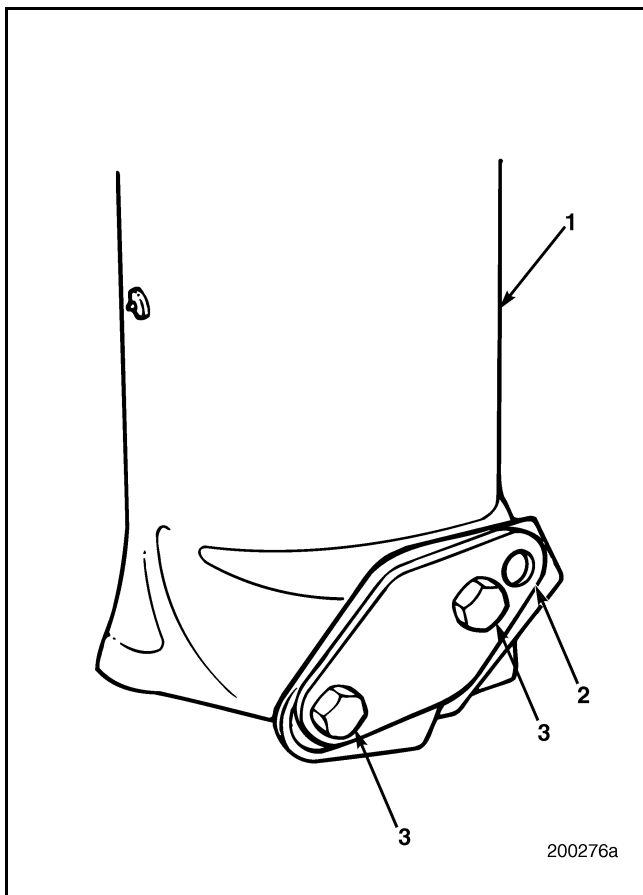

Figure 223 — Sealing Oil Outlet
- b. Install a steel plate (2) with a rubber gasket on the oil outlet opening. Secure the plate to the housing (1) with two capscrews (3) as shown in Figure 223.